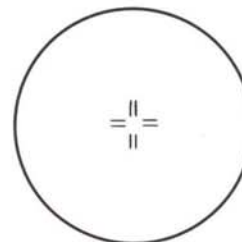

Fig. 13
- 2) Looking through the eyepiece with cross lines (OME-GWH10X-C), rotate the helicoid ring of the eyepiece until the double cross lines can be most clearly seen. (Fig. 13)